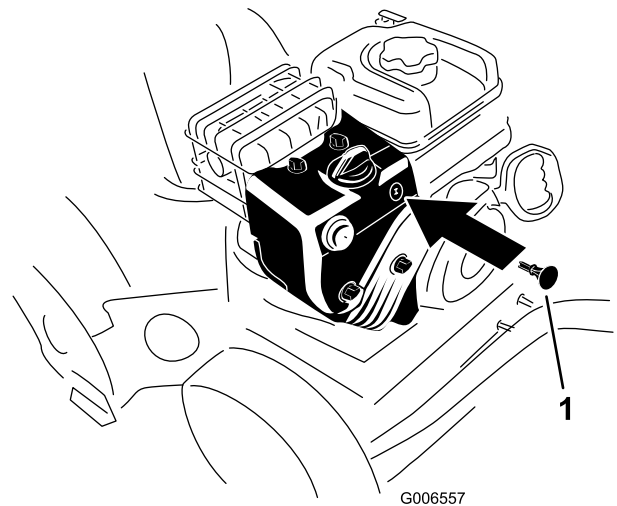

Figure 20
3. Insert the ignition key (Figure 20).